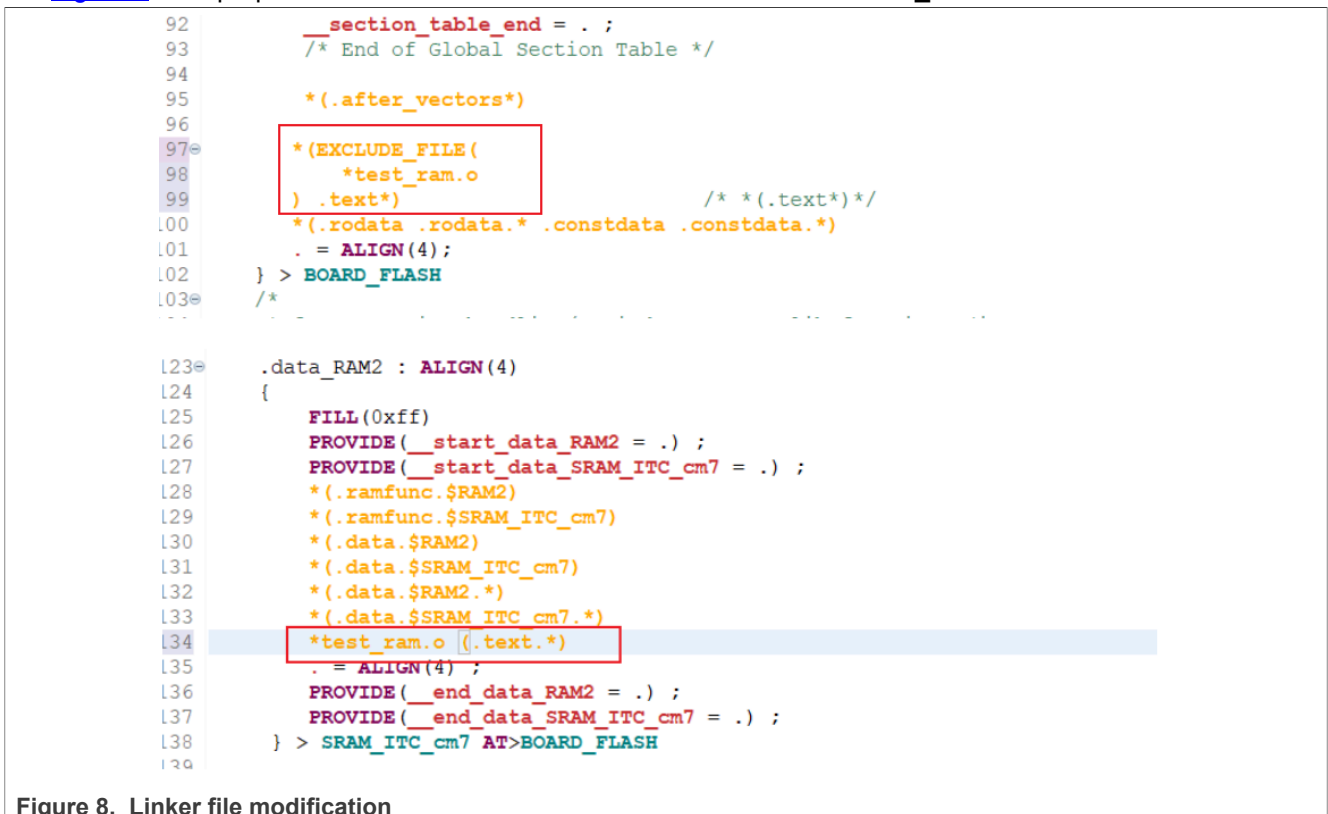

Figure 8. Linker file modification
- Open `evkbmimxrt1170_hello_world_demo_cm7_Debug_test.ld` and modify the values, as shown in Figure 8. The purpose of this modification is to link all the functions in `test_ram.c` to ITCM.